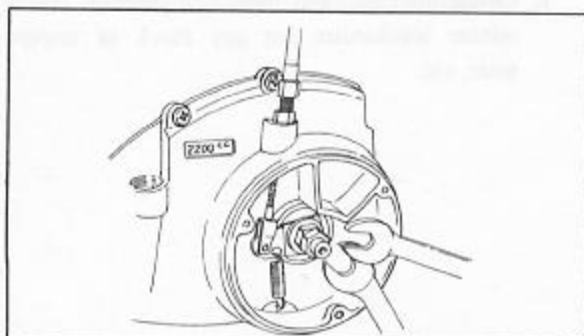

Fig. 4-6 Tightening release shaft nuts
- To assemble clutch release ball guide, tighten set screw after setting the outer ball guide into the specified position as shown in Fig. 4-6.